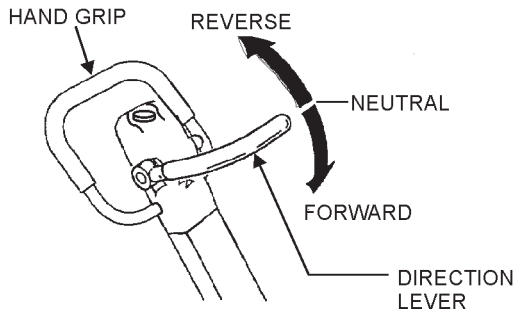

Figure 16. Direction Lever
3. To make the compactor move in the forward direction push the travel lever (Figure 16) forward. To make the compactor move in the reverse direction pull the travel lever backwards.